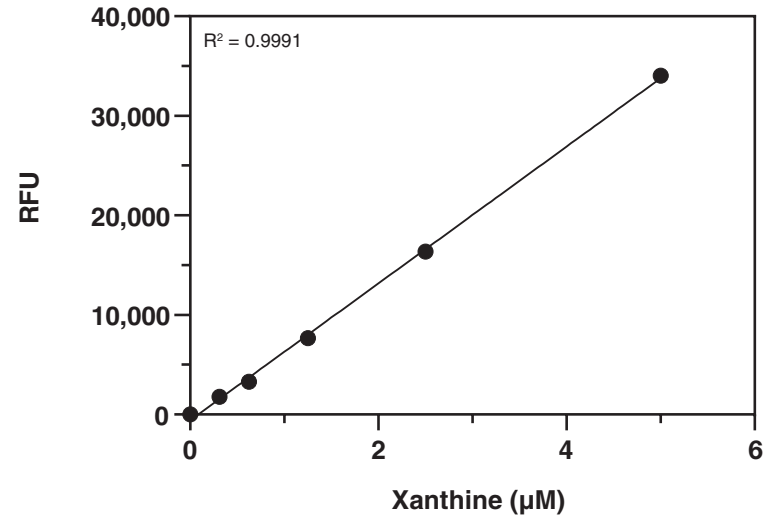

Figure 5. Xanthine standard curve for the fluorometric assay
3. Plot the corrected signal values of each standard as a function of the concentration of xanthine. See Figures 5 and 6, on pages 21 and 22, for typical standard curves.